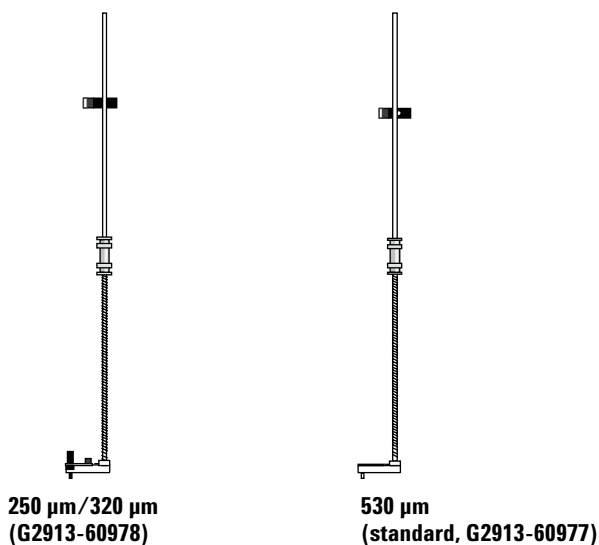

Figure 55 Needle support assemblies
- 3 Verify that the correct needle support assembly (Figure 55) is installed in the injector. Replace if necessary. See “Replacing the Needle Support Assembly on the G2913A Injector” on page 153.